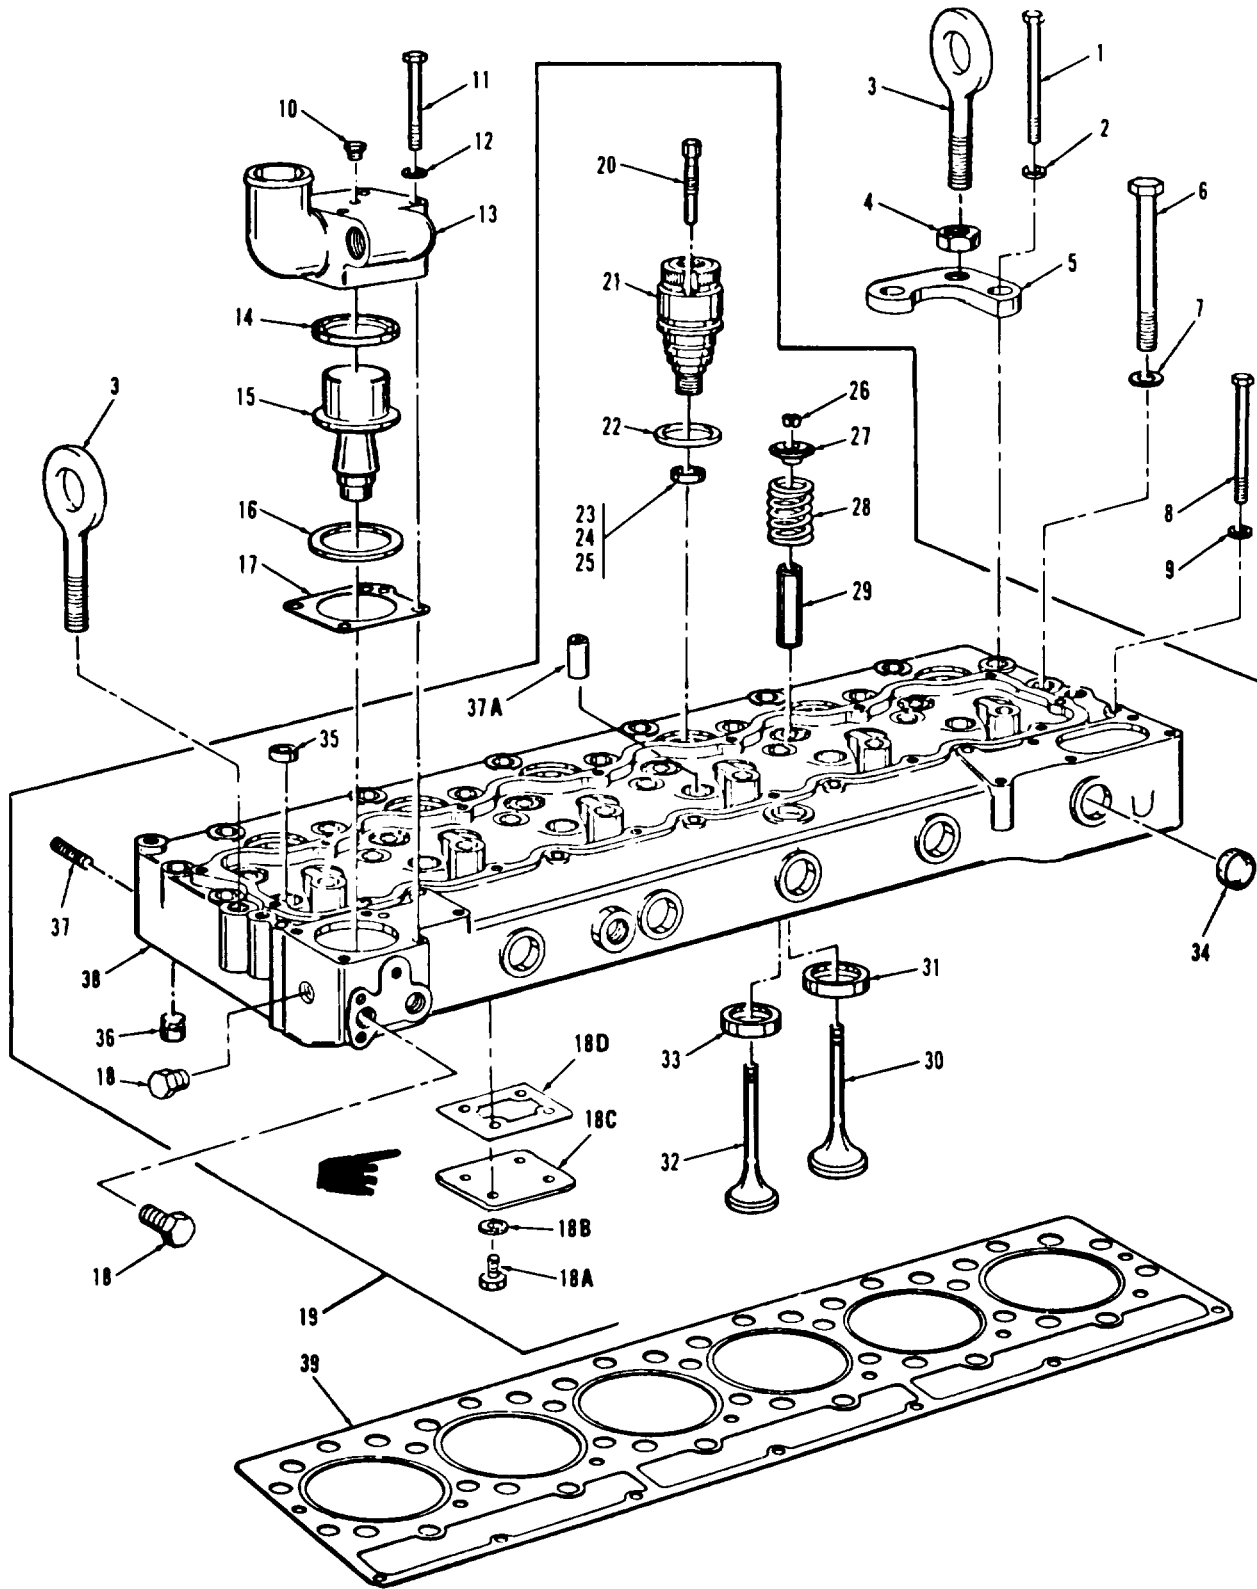

Figure 8-54. Cylinder head group, exploded view
f. Refer to figure 8-54 and remove cylinder head by removing bolts (6 and 8) and lockwashers (7 and 9). Attach a suitable lifting device to lifting eyes (3) and remove cylinder head.
Refer to figure 8-54 and disassemble cylinder head group in the order of index numbers assigned. Pay particular attention to the following:
a. Using a suitable wrench, remove precombustion chamber assemblies (21) from cylinder head (38).
b. Using a suitable spring compressor, remove springs (28) from exhaust and intake valves (30 and 32).
d. Using suitable bushing driver, remove bushings (29, figure 8-54) from cylinder head (38).
d. Inspect valve guides (29, figure 8-54) for cracks, distortion, and excessive wear. Check inside diameter of valve guides (29), using suitable pilot gauges. Refer to table 1-1 for acceptable diameter and maximum allowable wear limits. If limits are exceeded, replace valve guides.
c. If exhaust and intake valve faces (30 and 32, figure 8-54) and valve seat inserts (31 and 33) have been ground for proper seating, the dimensional specifications outlined in figure 8-55 must be met. If dimensions are unacceptable, exhaust and intake valves (30 and 32) and valve
Refer to figure 8-54 and reassemble cylinder head group in the reverse
Legend to figure 8-54:
a. Attach a suitable lifting device to lifting eyes (3, figure 8-54) on cylinder head. Install cylinder head and secure with bolts (6 and 8) and lock washers (7 and 8). Refer to figure 8-56 for torquing sequence.